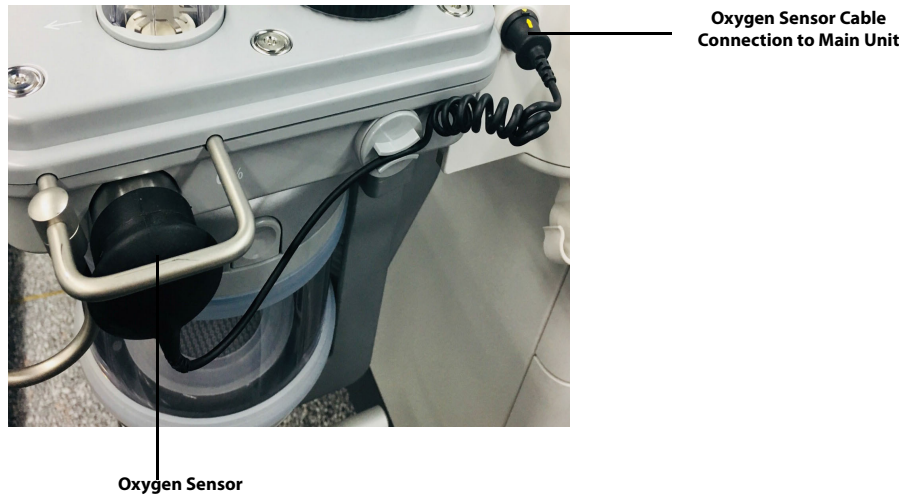

FIGURE 7-13 Oxygen Sensor and Cable
1. During use, the oxygen sensor is plugged firmly into the breathing system block. It is not necessary to remove this component to clean it. However, if removal is desired, first disconnect the oxygen sensor cable from the main unit (see FIGURE 7-13). Then hold the oxygen sensor and pull straight out firmly from the breathing system block